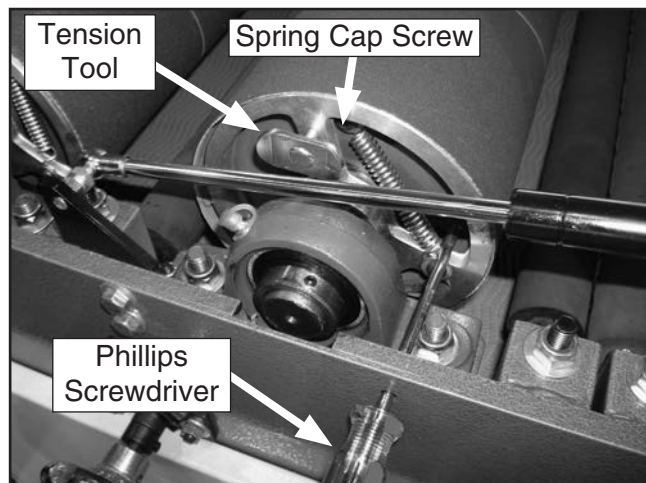

Figure 30. Locking the tension wheel.
2. Lift the top cover and place a screwdriver through the right side of the frame and into the side of the drum, as shown in **Figure 30**.
3. Rotate the sanding drum to stretch the tension spring. Fit the end of the spring tension tool shaft through the hole in the tension wheel arm (see **Figure 30**) and into the head of the cap screw securing the spring.